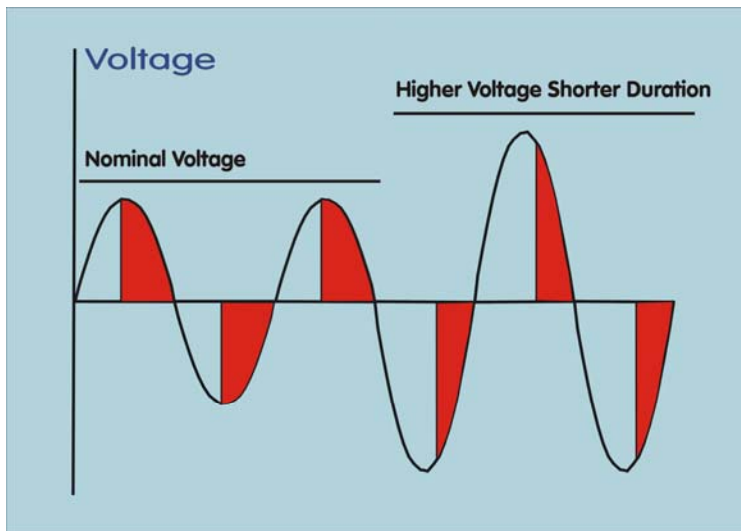

Fig 3. Correction for Line Voltage Variation
- You can do the same with phase-angle control where the shark fin pulse width is reduced in response to a line-voltage increase. See **Fig 3**.